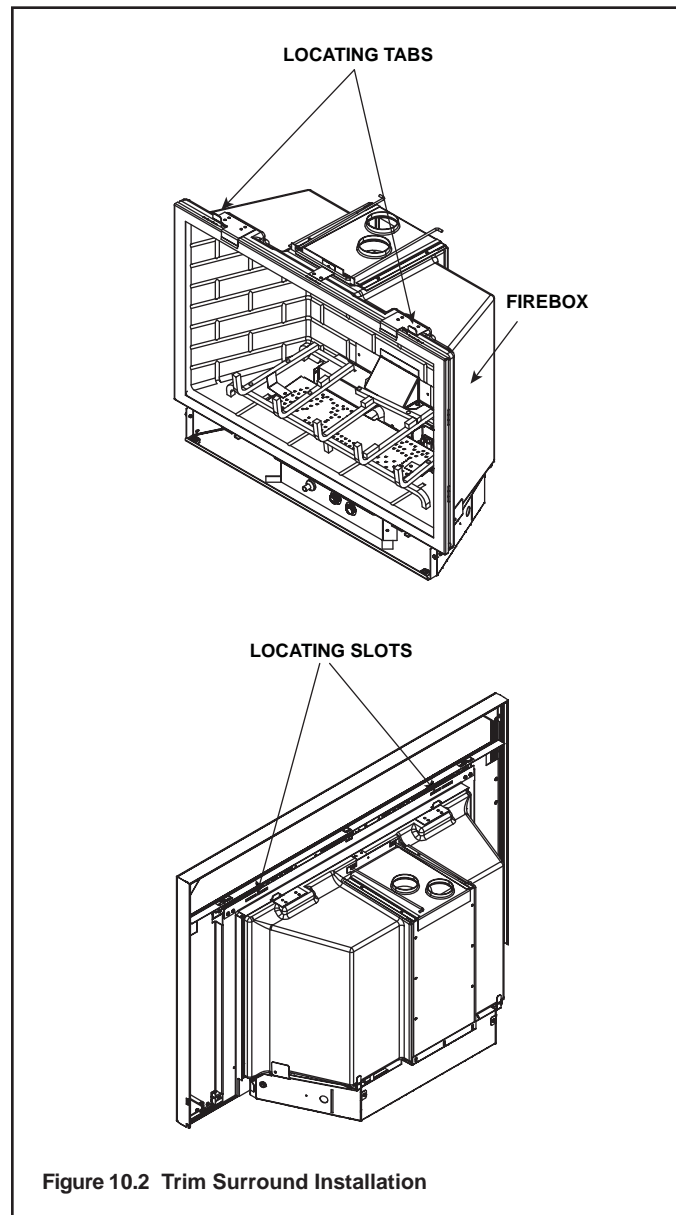

Figure 10.2 Trim Surround Installation
1. Find the coiled low voltage wires and ON/OFF switch attached to outer right side of the insert (see Figure 10.2).
3. Attach surround assembly by hooking the support bracket on the locating tabs on top of the gas insert fireplace (see Figure 10.2.) Once the surround assembly is on the locating tabs, ensure the bottom hooks are resting on the locating pins at the base. Reposition the fireplace if necessary. Refer to surround instructions provided with the decorative surround.